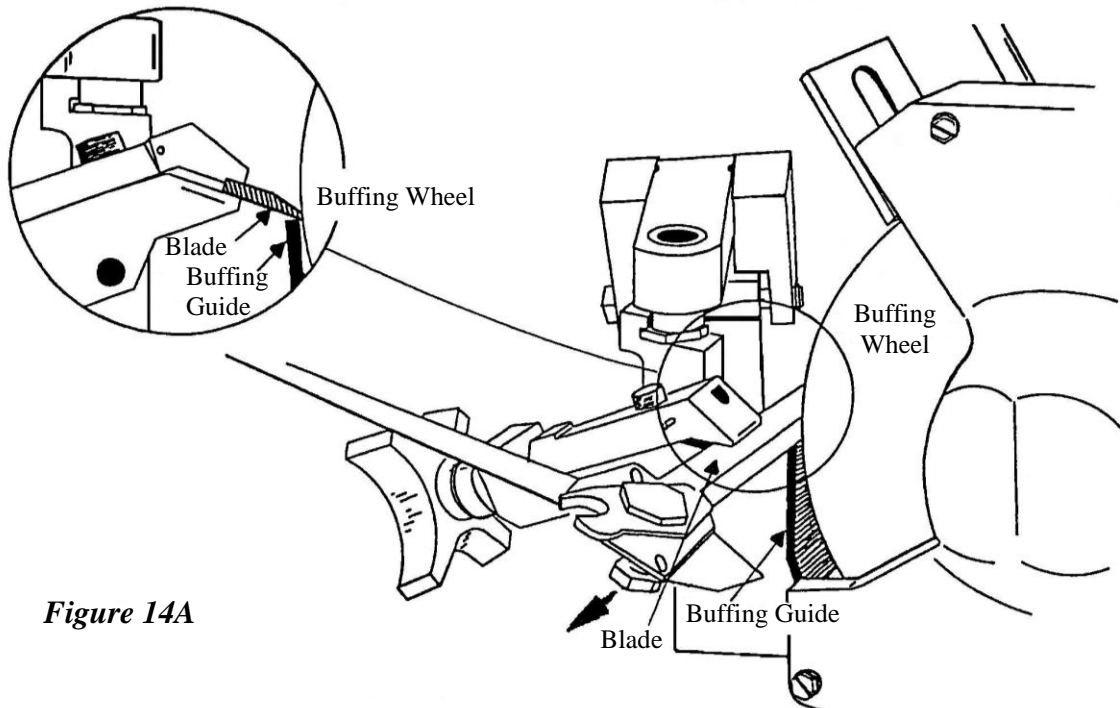

Figure 14A
8.4.7 Buffing the Blade - Continued (See Figure 14A)
Step 3 - Lay the blade against the buffing guide. Touch the blade against the buffing wheel and slide it across the buffing wheel from pivot to tip as shown by the arrow in Figure 14A.